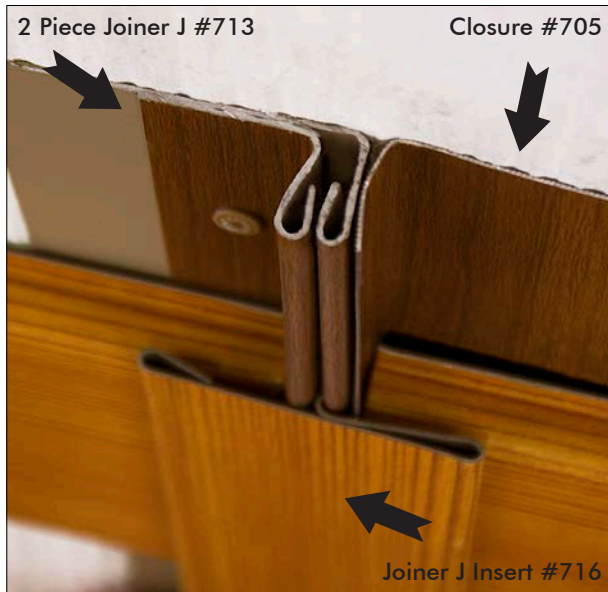
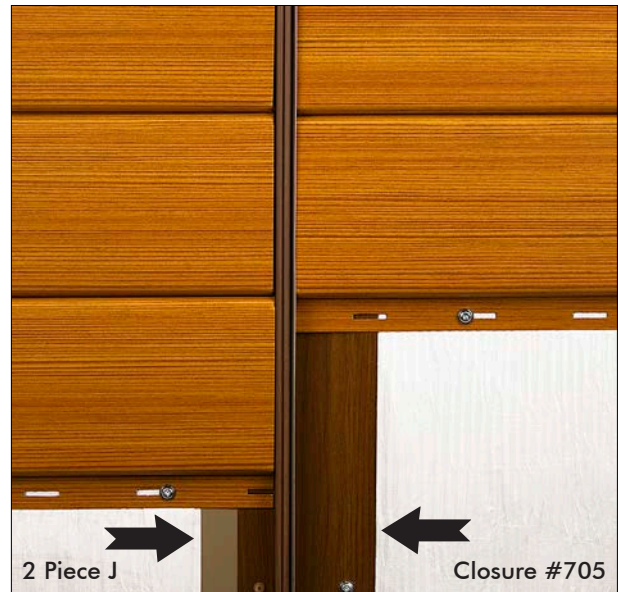
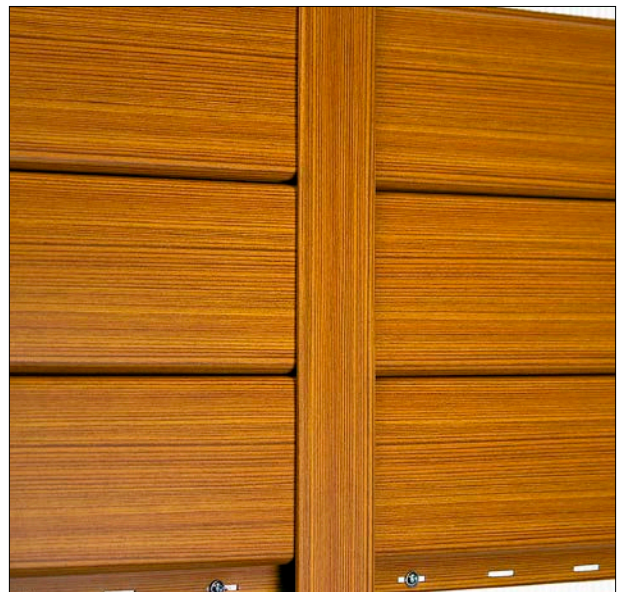

Fig.38
Fig.39
Fig.41
Two Piece Joiner J - The two piece Joiner J channel and closure are designed to go together to finish panel sections where it is necessary to add the trim after the panels have been installed (Fig.38). The Closure #705 is part of the water dispersion design (Fig.39) + (Fig.41).
Step 1: Install the two piece Joiner J and closure back to back (Fig.39) + (Fig.41).
Step 2: Set the standard panels in place and fasten (Fig.39).
Step 3: Finish installation by installing the Joiner J Insert #716 (Fig.41).
The finished installation will provide you with a clean aesthetic that also accommodates water drainage (Fig.38).